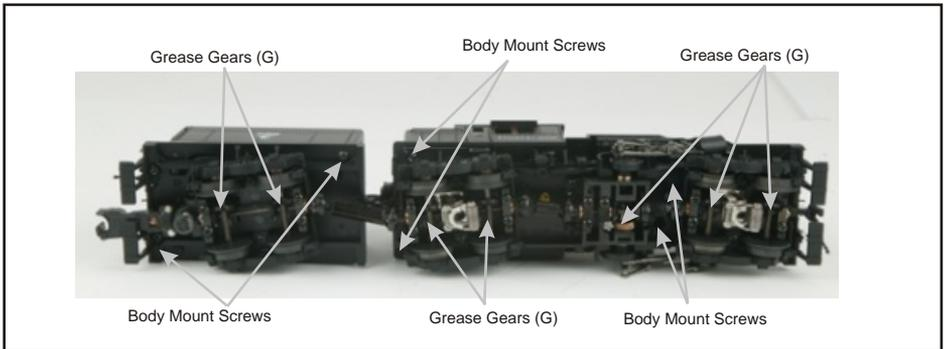

Figure 6: Greasing points on the engine and location of body mount screws
This engine should be oiled and greased in order to run properly. The Climax unlike conventional rod driven locomotives has many expose gears in the drive train and on the wheels. You should apply a light coating of grease to the exposed gears as shown in Figure 6.
1. Remove the boiler from the chassis as shown in fig. 6 on page 10.